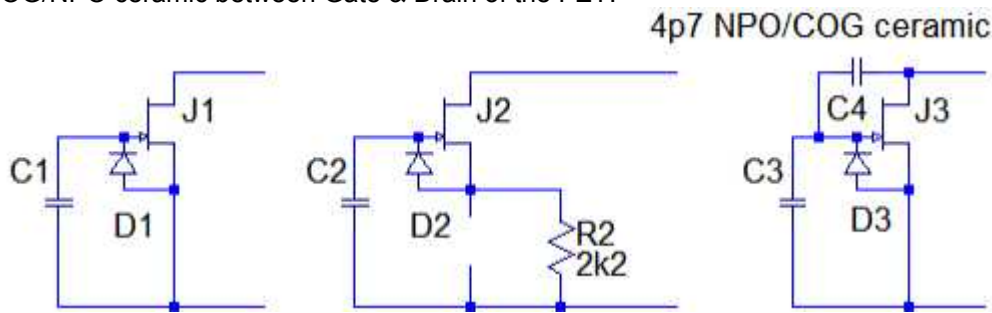

Fig 4 Original 2 wire capsule / mod to 3 wire external resistor (Marcel mod) / 2 wire C4 added inside
- Each of the 2 later examples in Fig 4 represents an (“**improved**”) 2 wire capsule. The added bits **MUST** be AT the capsule/FET
Each case in Fig 4 is simply substituted for the 2 wire WM61a in Fig 1 and R1 adjusted to give 5 – 10V across it.
- Treat this assembly as an "improved 2-wire capsule" like the examples in Fig 4 ie insulate capsule case from screen. But the screen MUST overlap it.